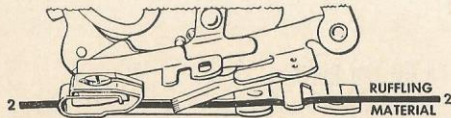

Fig. 70. Correct Position for Material
2. Insert material to be pleated between two blue blades Line 2, Fig. 70.